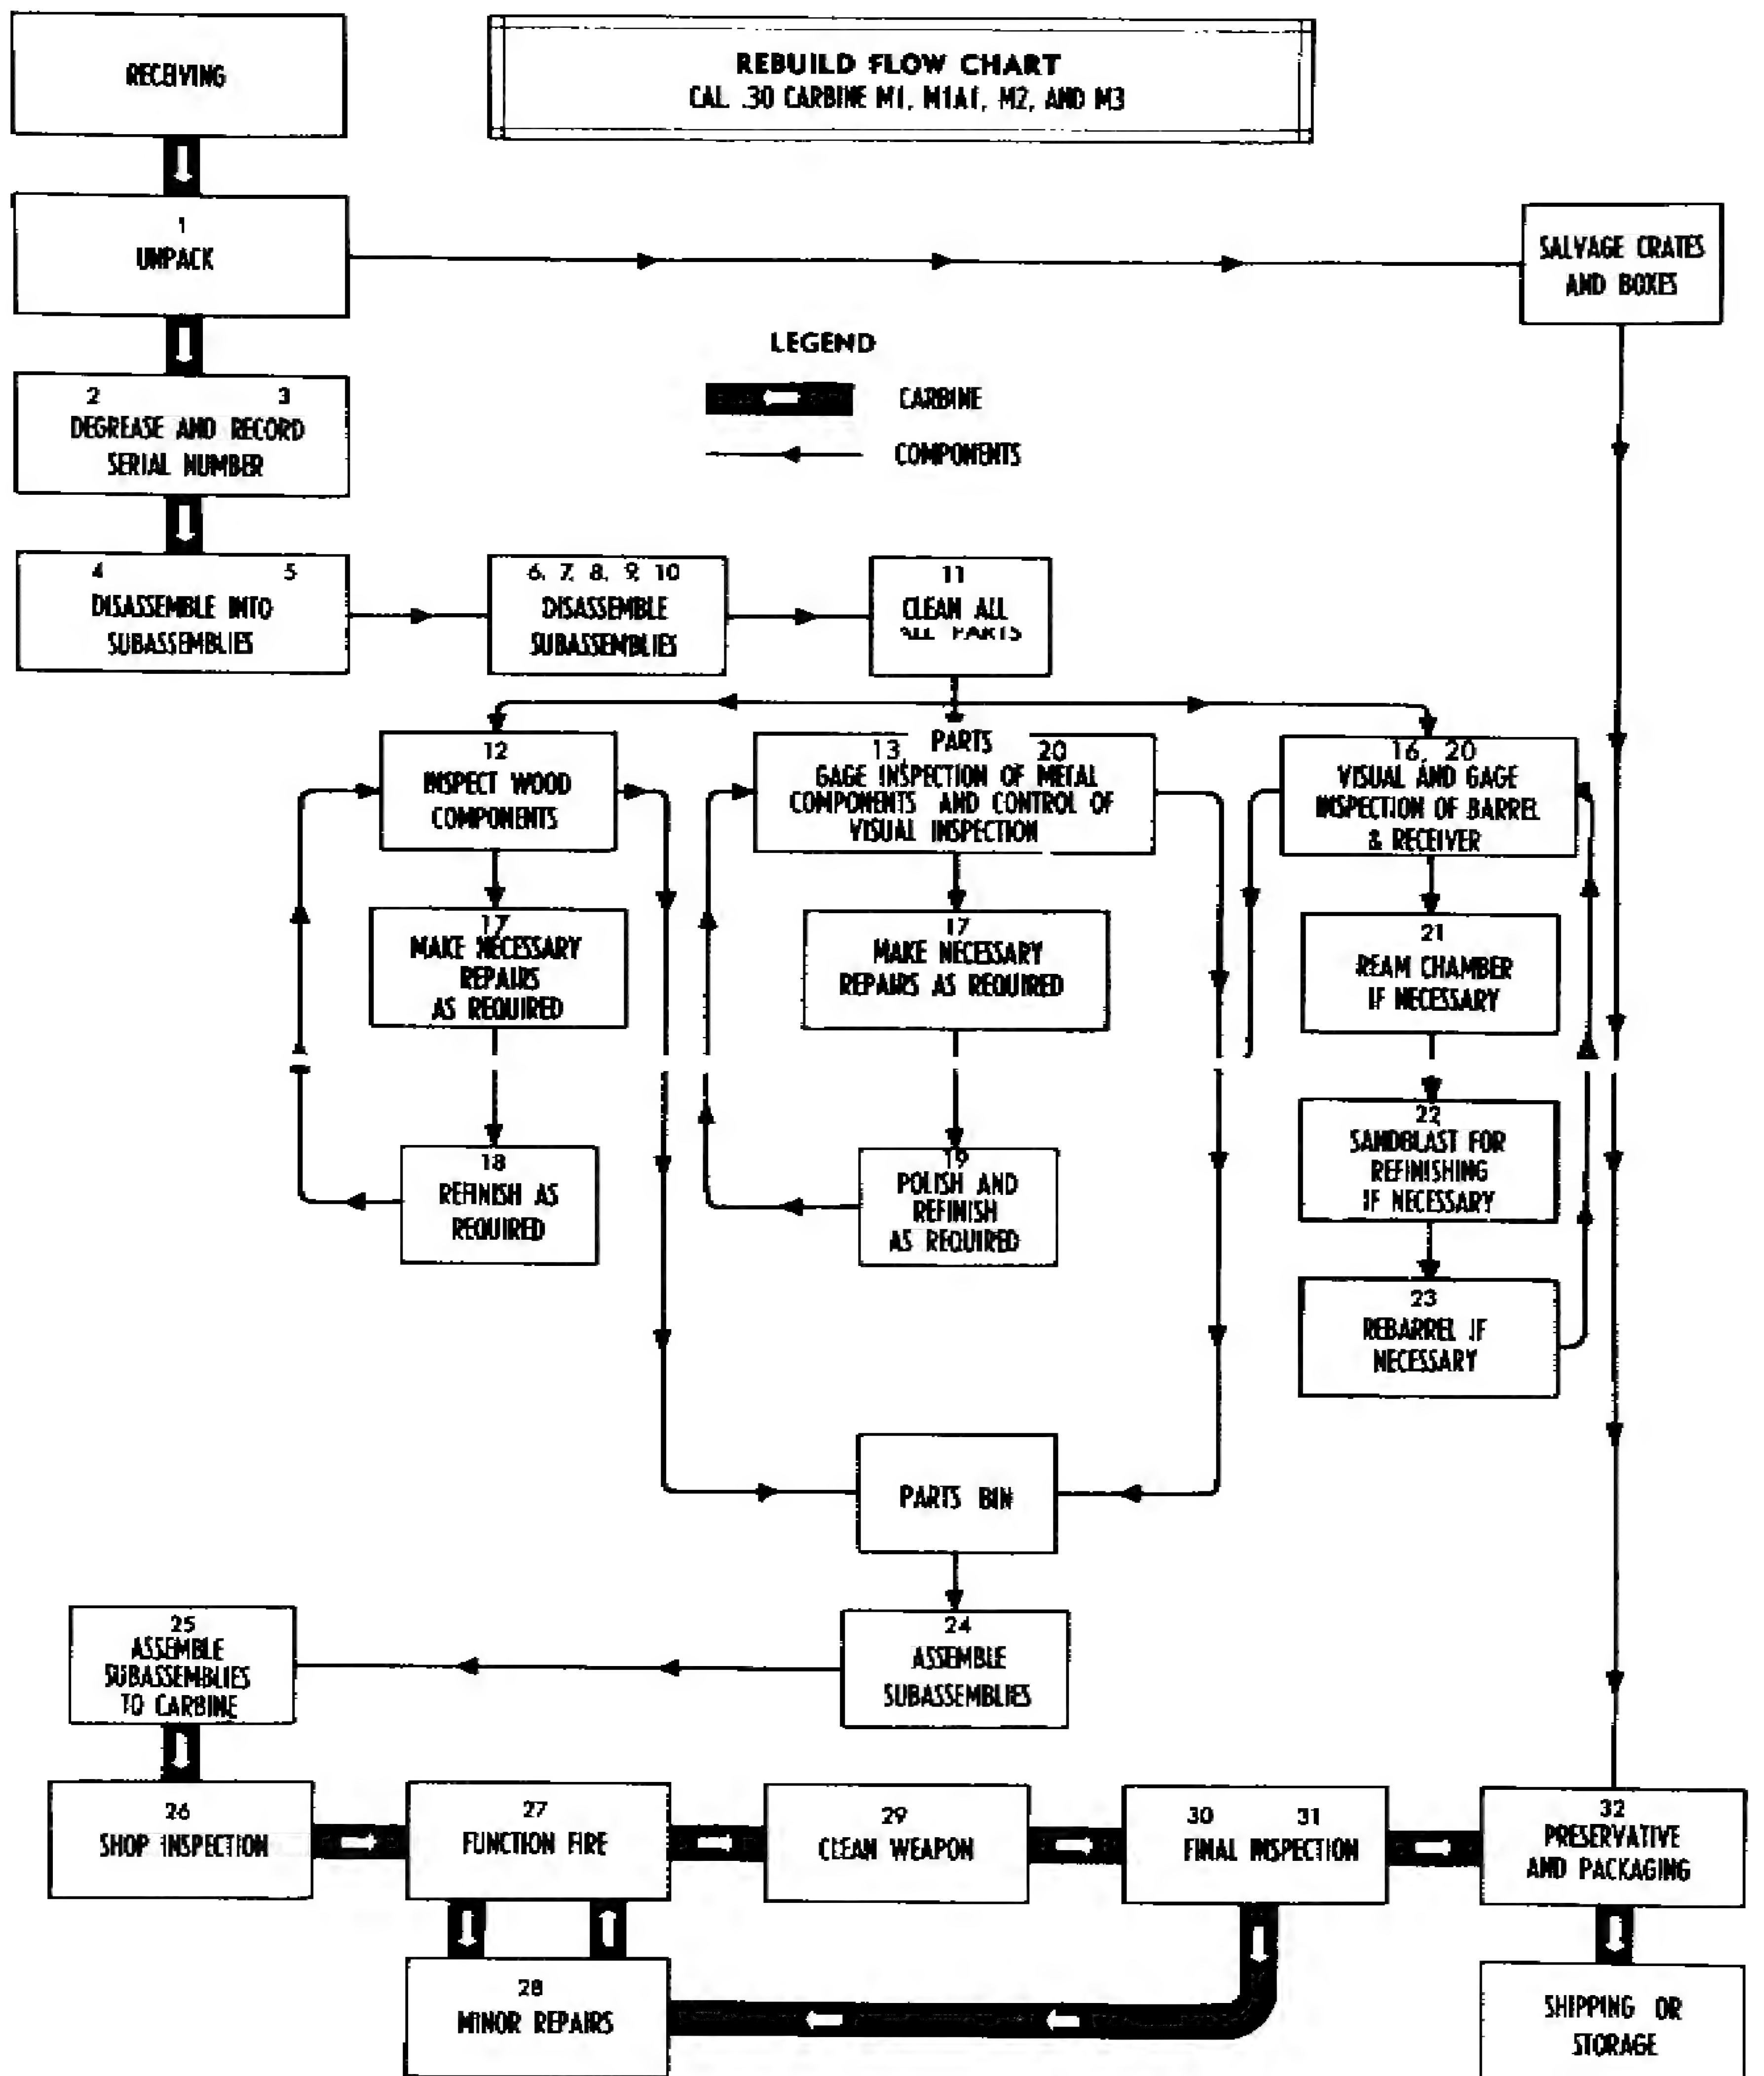

Figure 43d. Assemblies comprising the weapon shown in relative positions.
*b.* In this manual, the main groups of the weapon are disassembled, inspected, replaced or repaired, and assembled. For information on removal and installation of groups, see page 13. A group is a number of parts or assemblies, or both, which either function together or are intimately related to each other and should be considered together (Fig. 43d).